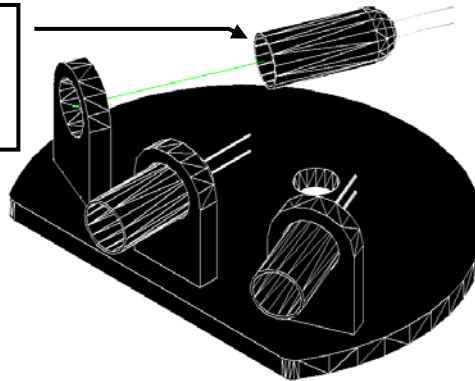

Figure 32. Insert three photoresistors into the holders on the *Sensor Head Plate* and secure with hot glue.
5. (Figure 32) From the front, insert three photoresistors into the holders on the *Sensor Head Plate* about $\frac{1}{4}$ inch.